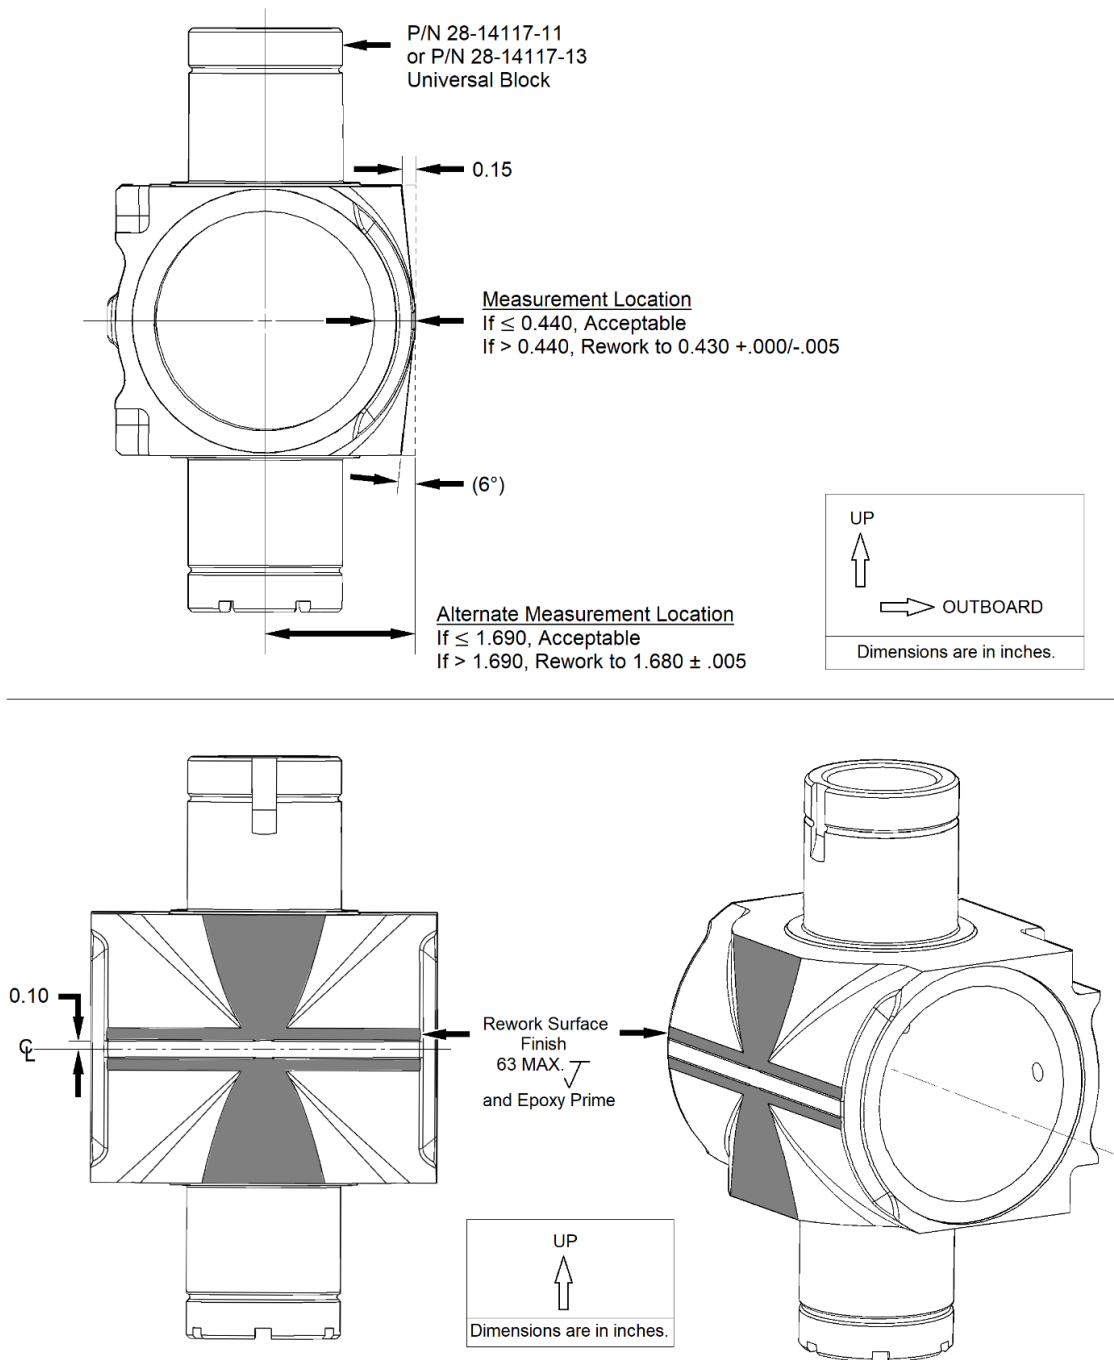

Figure 2. Universal Block Inspection and Rework Criteria
- 6.3 Mill the flats and chamfer the outboard top and bottom edges as shown in Figure 2 (63 maximum surface finish).